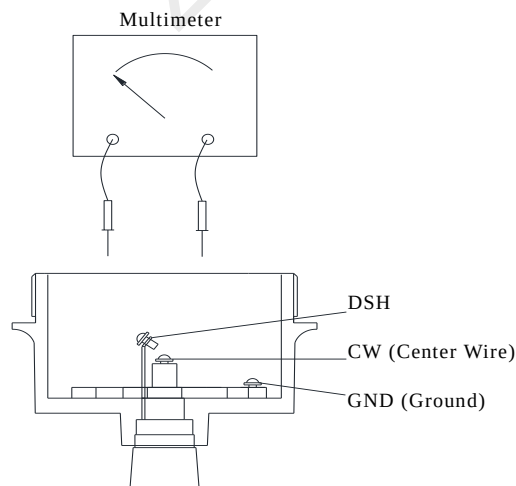

Figure7.2 Testing sensing element
B. If there is some build-up on sensing element, see figure 7.2. using an analog ohmmeter, measuring the following values